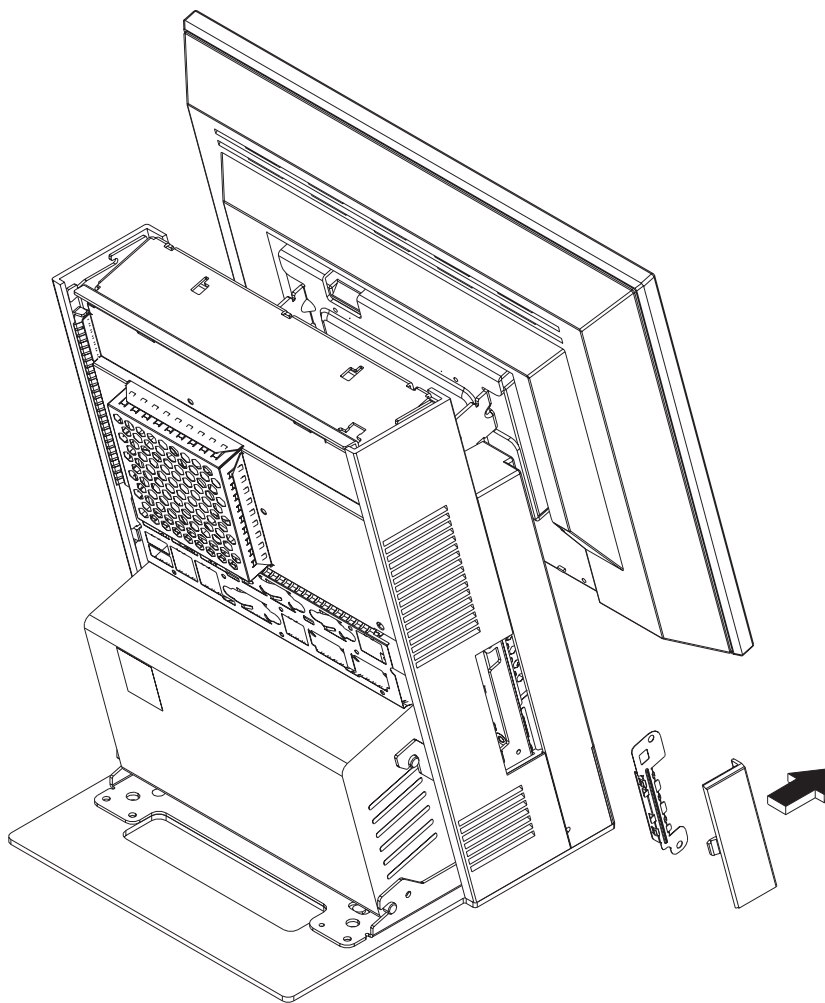

Figure 51. Removing the PC card adapter slot blank
3. Remove the PC card cover as shown in Figure 51.